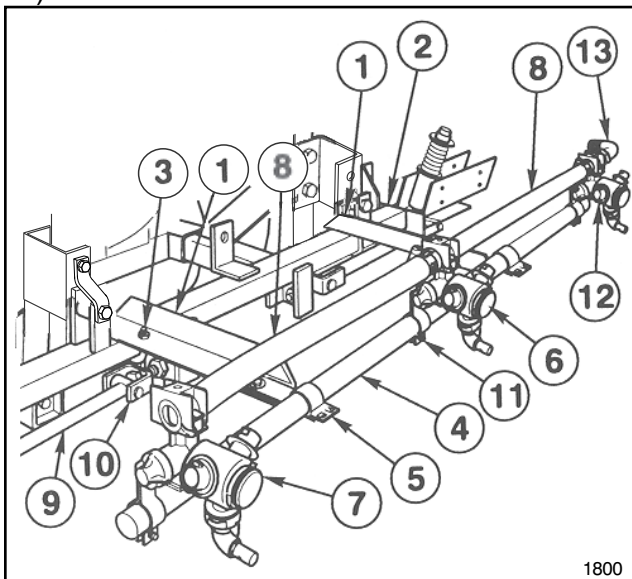

FIG. 4
6. Position the two (2) Center Boom angles on the Main Frame and secure them to the Main Frame Tube with two (2) square U-bolts, four (4) flat washers and hex nuts. (See FIG. 4, page 13)
7. Center and attach the Center Boom Pipe to the two (2) Center Boom Angle with two (2) clamps, (2) 3/8" x 1" cap screws, flat washers and lock nuts. Once mounted the Center Boom Pipe should be approx. 20" from ground.
8. Loosely attach the Double Barb Turret Body with the Turret Body Clamp in the approximate center of the Center Boom Pipe. For the most uniform spray coverage position all Nozzles level as shown in FIG. 4.
10. Place two (2) Hose Clamps on two (2) 3/4" x 19" Jumper Hoses and connect the two (2) "end" Turret Bodies to the Double Barb Turret Body. Space nozzles 20" apart and tighten fasteners securely. Apply thread sealer and install 90° 3/4" Hose Barb on the Threaded Turret Body. (See FIG. 4, page 13)
11. Attach the two (2) Strut Assemblies to the two (2) adjustable clevises found on each side of the Main Frame tube with (2) 1/2" x 2" clevis pins and two (2) 1/8" x 1" cotter pins. (See FIG. 4, page 13)